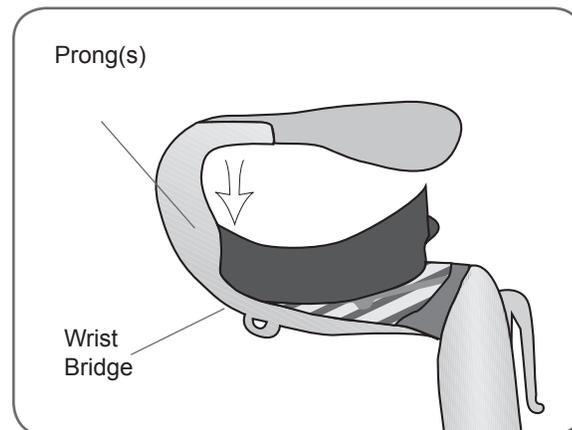

Figure 6-6: Inserting the wrist insert into the wrist bridge.
4. Insert the wrist insert prong(s) into the wrist bridge. See Figure 6-6. Do not damage the electronic circuitry in the wrist bridge.